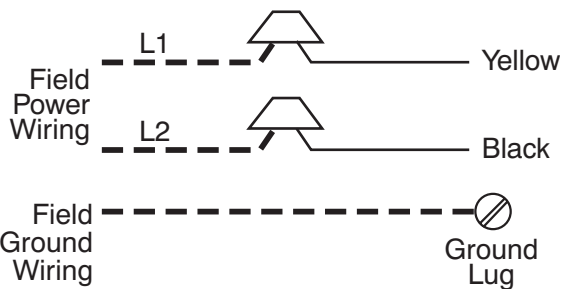

Fig. 6 - 3, 5, 8, 9 10 kW Non-fused Heaters (9 kW is field convertible to 3-phase. See Procedure 3. B. 1. c.)
1. Unprotected heaters: (See Fig. 6, 10, and 11.)